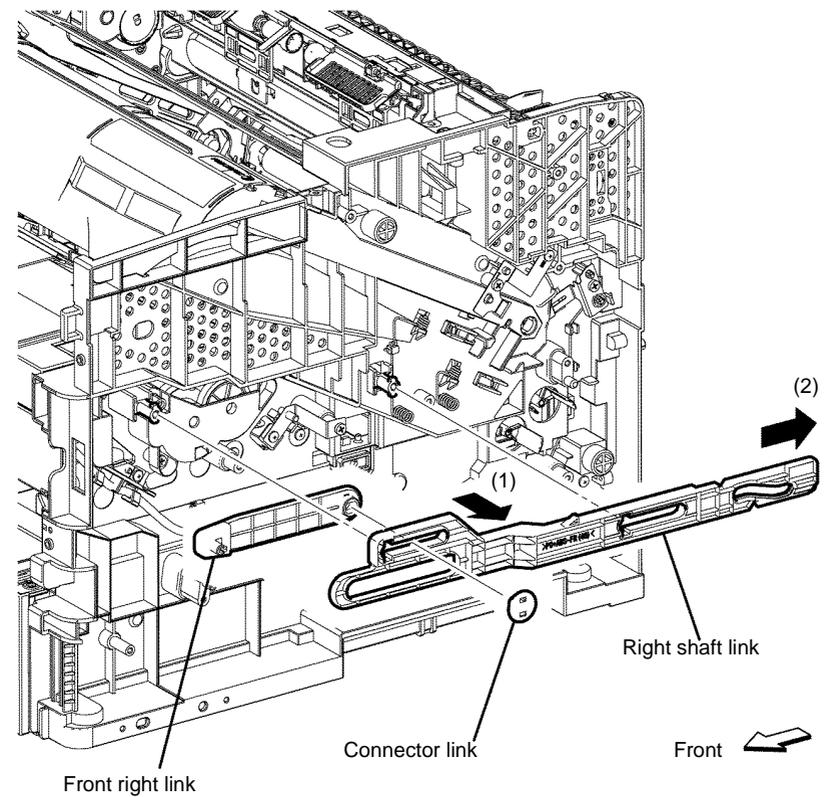

Figure 1 Right link shaft removal
8. Release the hook on the front right link, then remove the connector link, and the front right link from the right shaft link, Figure 1.
9. Remove the right shaft link by bending it out from inside the printer, Figure 1.